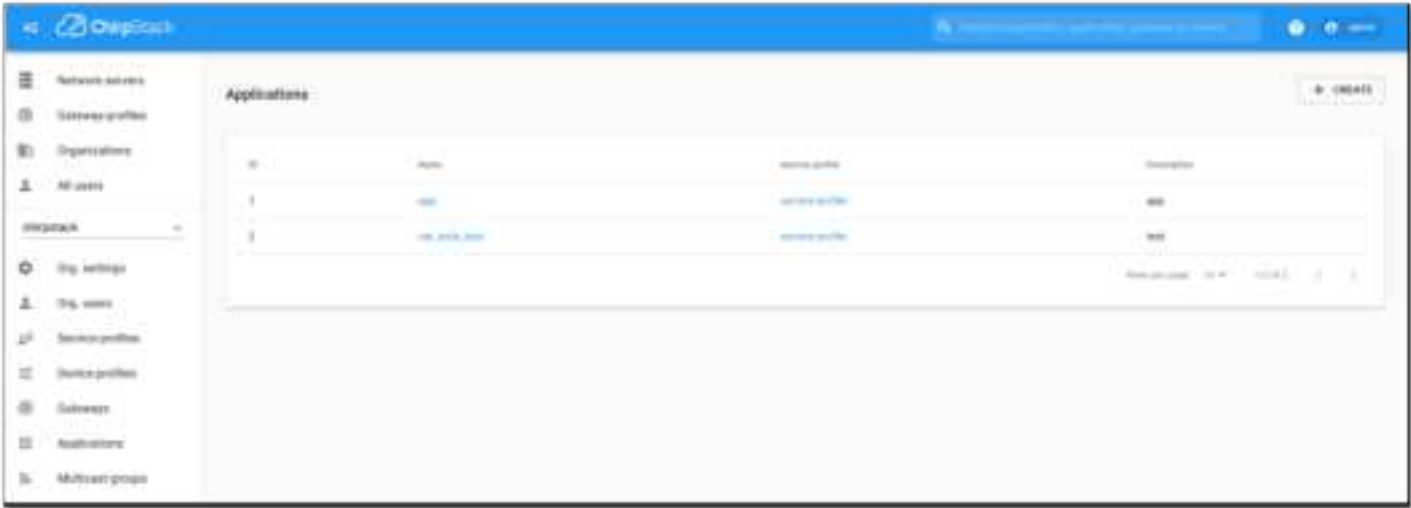

Figure 72: List of Applications Created
1. If you have selected “**DeviceProfile_OTAA**”, as shown in **Figure 72**, then after the device is created, an Application Key must be also created for this device.